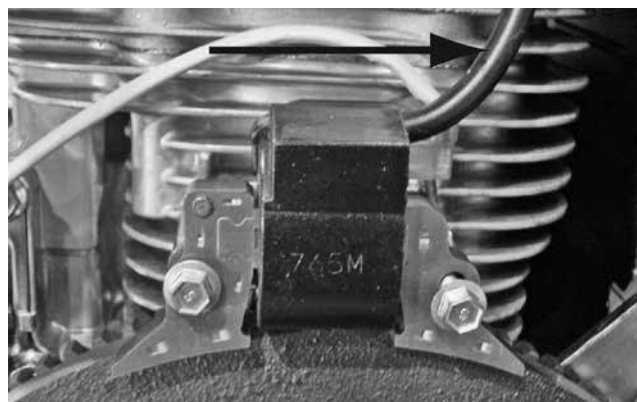
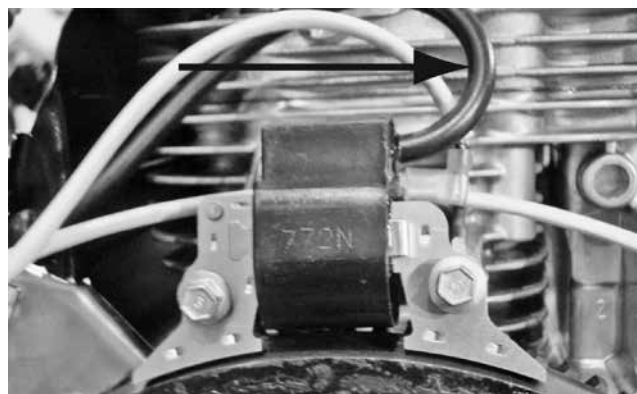

Figure 208. Cylinder One (Back, Short)
Figure 209. Cylinder Two (Front, Long)
3. Cylinder one is the back cylinder (Figure 208) and cylinder two is the front cylinder (Figure 209).